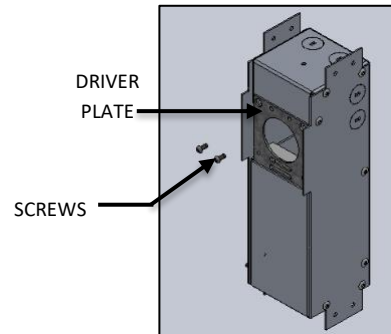

FIG. 10- DRIVER PLATE DISASSEMBLE
3. Remove the SCREWS securing DRIVER PLATE, and slide DRIVER PLATE out of J-BOX as shown in FIG. 10.